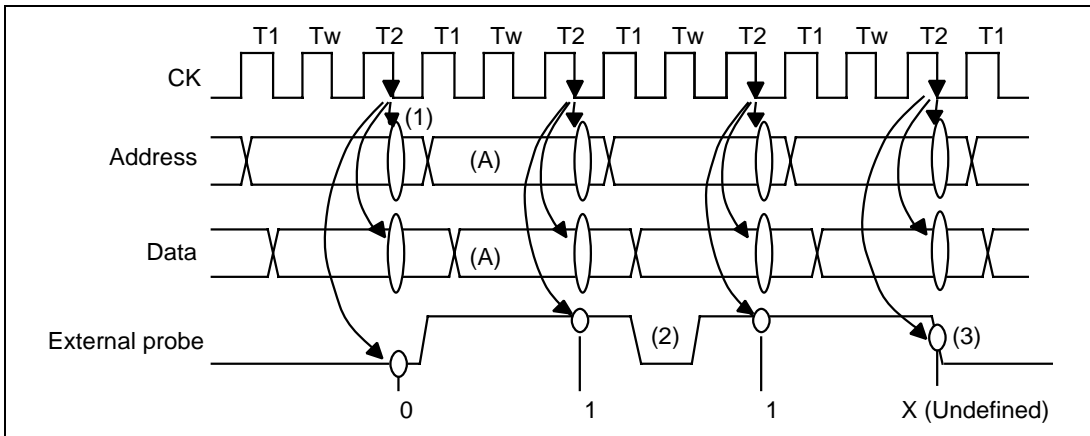

Figure 5.47 Tracing External Probe Signal
An example of a bus-trace timing for the external probe signal is shown in figure 5.47.
(1) External probe signal
(a) Information is traced on the falling edge of the T2 cycle of the CK signal (figure 5.47 (1)).
(b) When the level of the external probe signal changes while information is being acquired, this change will not be included in the trace information (figure 5.47 (2)).
(c) If the sampling edge and the level of an external probe signal change at the same time, the information traced will be undefined (figure 5.47 (3)). If the sampling edge and asynchronous input signal such as NMI or IRQ changes at the same time, the information traced will also be undefined.
(2) Number of clocks